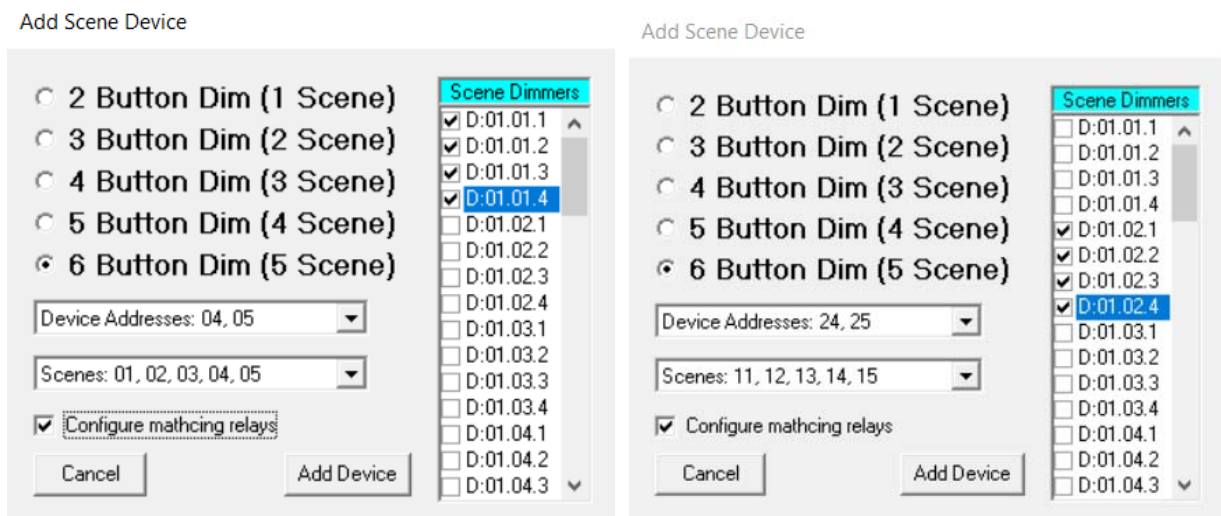

Figure 8 Conference Room A and B Scene Station Programming
- The first step is creating the LightSync devices for the two rooms, in my example I will create a 6 Button Dim (5 Scene) station in each room at address 04 in room A (LS:04,05 to Scene 1,2,3,4,5 and S6 for Off) and 24 in room B. (LS:24,25 to Scene 11,12,13,14,15 and S16 for Off). See Figure 8